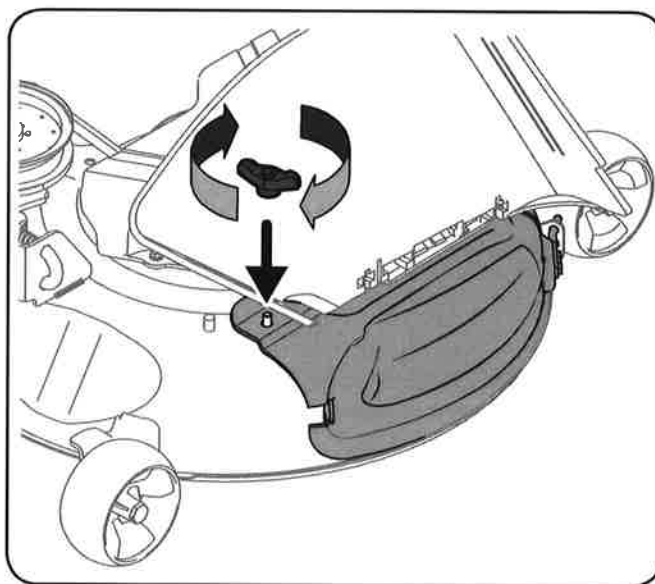

Figure 1-6
3. Secure the mulch plug in place with the wing knob. See Figure 1-6.